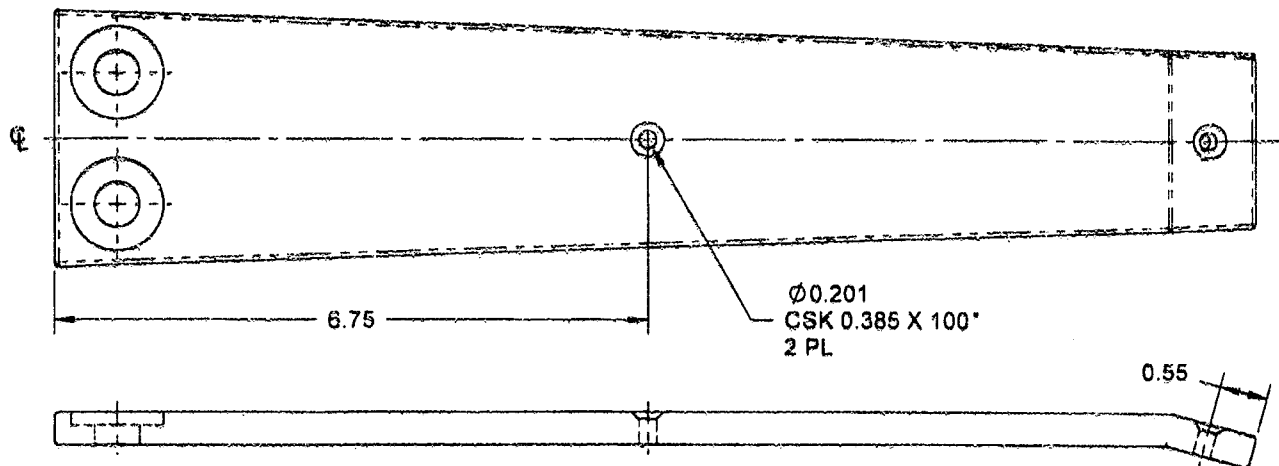

FIGURE 1: D2741 BLADE DRILLING DETAIL
- 2) Drill 2x $\varnothing 0.201$ (#7 drill) per D2741 blade as shown in Figure 1 Sheet 2 and deburr